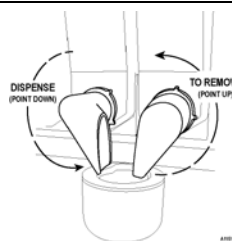

Figure 5b. Product Chute
2. Prior to removing an ingredient canister, rotate the delivery chute in an upward direction to prevent spillage of product onto internal surfaces. See **Figure 5b**.
13. Rotate the product chute so that it points down (dispense position) to the whipper bowl. See Figure 5b.